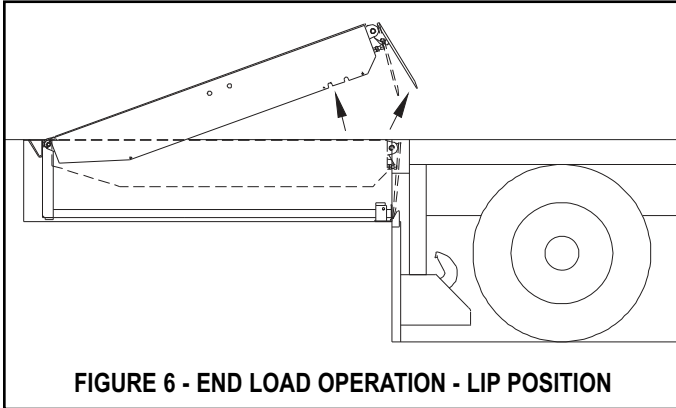

FIGURE 6 - END LOAD OPERATION - LIP POSITION
1. Activate the leveler by pushing and holding the RAISE button until leveler is fully raised and lip begins to extend. See figure 6.
2. When lip extends about 2 inches, release RAISE button. See figure 6. The leveler will lower to the below dock position with the lip positioned between the face of the loading dock and the truck/trailer bed. See figure 7.